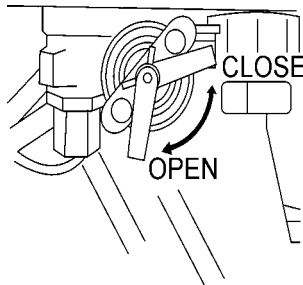

Figure 7. Fuel Cock
1. Open the fuel cock (Figure 7).
3. Close the fuel cock (Figure 7).